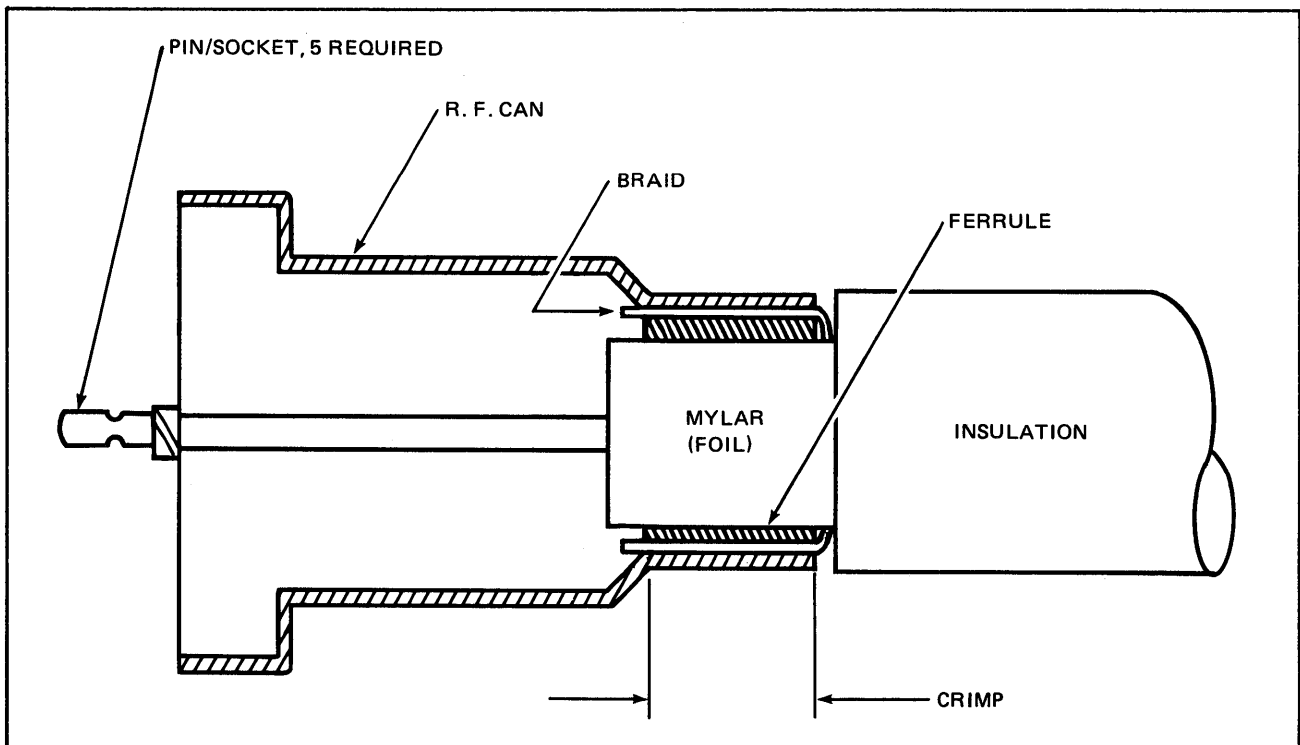

Figure D-14. RF Can Crimped to 5-wire Cable
3. Attach the RF can to the shield as shown in Figure D-14.